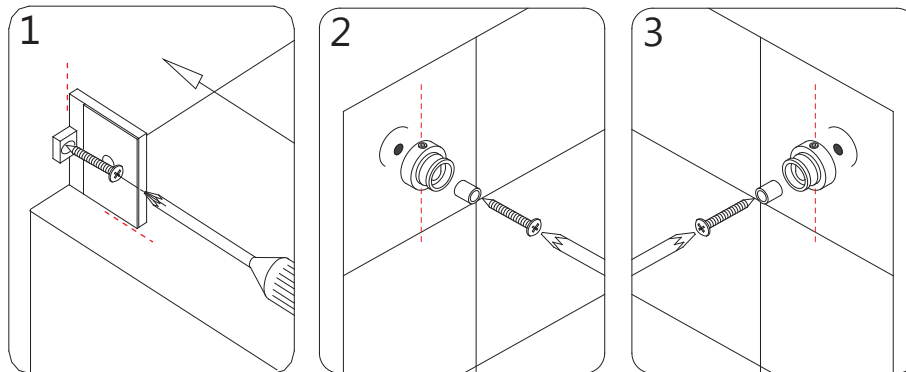

Fig. 11
10. Fasten the **Wall Bracket (#19)** to the wall using the **Truss Head Screw ST4.2×55 (#18)**. Mount the base part of the **Guide Rail Brackets (#08)** onto both walls using the **Large Truss Head Screw ST6×65 (#10)**. Note that the adjustment **Set Screws on the brackets must be aligned vertically** for easier access to adjust for level after the glass is installed. **(Fig. 11)**